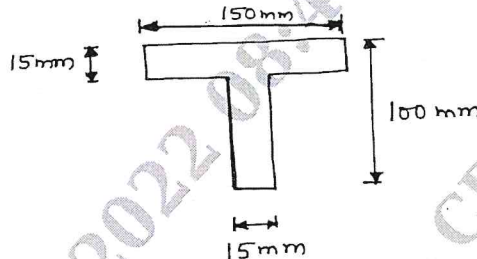

Fig. Q6(b)
- b. The cross section of a beam is a T section (Fig. Q6(b)) 150mm × 100mm × 15mm with 150mm horizontal. Find the maximum intensity of shear stress and sketch the shear stress distribution across the section if it has to resist a shear force of 90kN. (10 Marks)